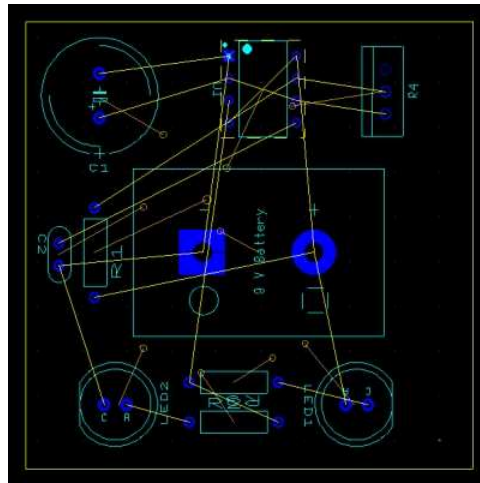

Figure 2:
- The new ultiboard design will appear on the screen as a jumbled mess of components. We call this the “rat’s nest.” The components are shown as blue outlines which represent the size and shape of the actual parts. The yellow lines indicate the necessary connections that need to be made between the component pins. The yellow box is called the keep-in boundary. This represents the actual dimensions of the finished board. The brown lines are called Force Vectors and are supposedly a tool to help in positioning components, but their usefulness is widely disputed so we will ignore them. Your rat’s nest should look similar (but not identical) to the one below in Figure 2.
- Click *OK* and it will return you to the design window and the box will now be smaller and square, as shown in Figure 2.
- Be sure to leave some open space along one edge as seen on the right side of Figure 2. We need this space for labels in a later step.
- If you like you can try to copy the example in Figure 2, but remember yours probably won't be an exact match so don't compare the designs by component names, instead identify parts by what they connect to. Regardless, your design will differ enough to not be able to copy it exactly, rather use the sample as a guide for where to place components in general.